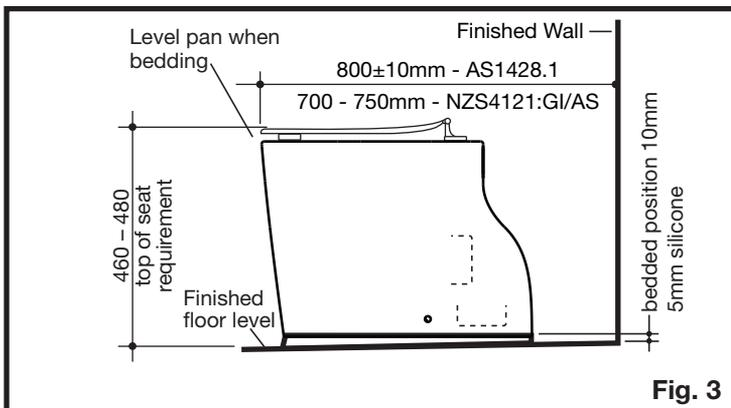
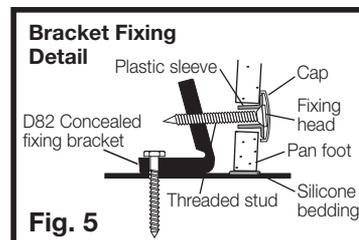

Fig. 3
Fig. 5
- 5- Position pan and connect with pan connector then level pan into bedding mixture, so that the back of the foot of the pan is approximately 10mm above the finished floor as detailed in Fig. 3. It is recommended that wedges are used to support the foot of the pan during the positioning.
- 7- Connect pan to connector and locate plastic fixing sleeve into holes in the pan. Fit screw into the bracket and tighten to bed pan to floor while ensuring level, as detailed in Fig. 3. IMPORTANT-DO NOT OVER TIGHTEN, AS THIS MAY CRACK THE PAN FOOT. Snap on plastic cap, as detailed in Fig. 5.